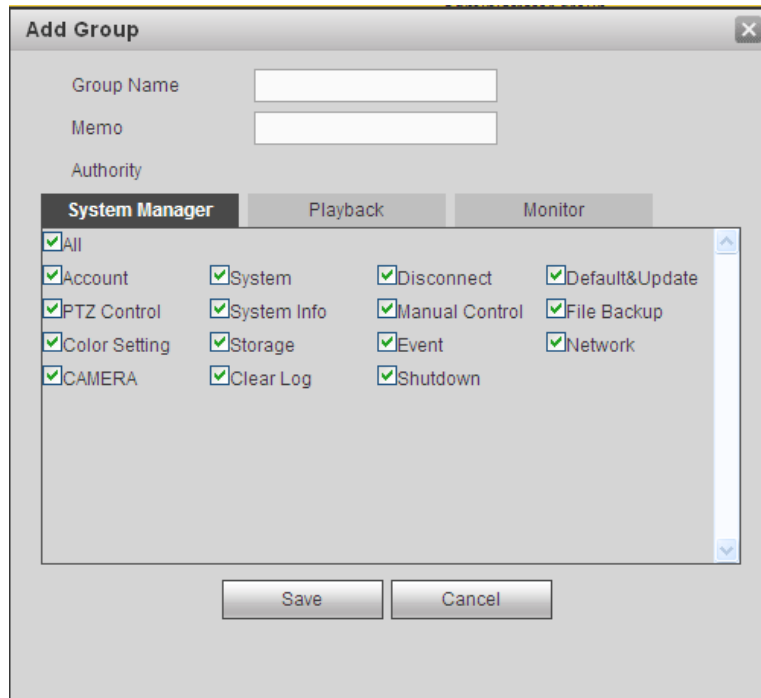

Figure 5-86
**Add group:** It is to add group and set its corresponding rights. See Figure 5-86.